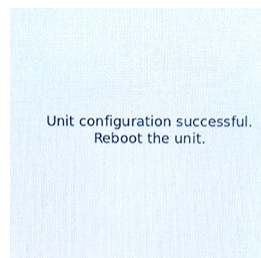

Figure 21
- l) The controller displays "Unit Reboot the unit." (see Figure 21). Power cycle the cabinet by switching OFF the power switch for five (5) seconds and switching back on.